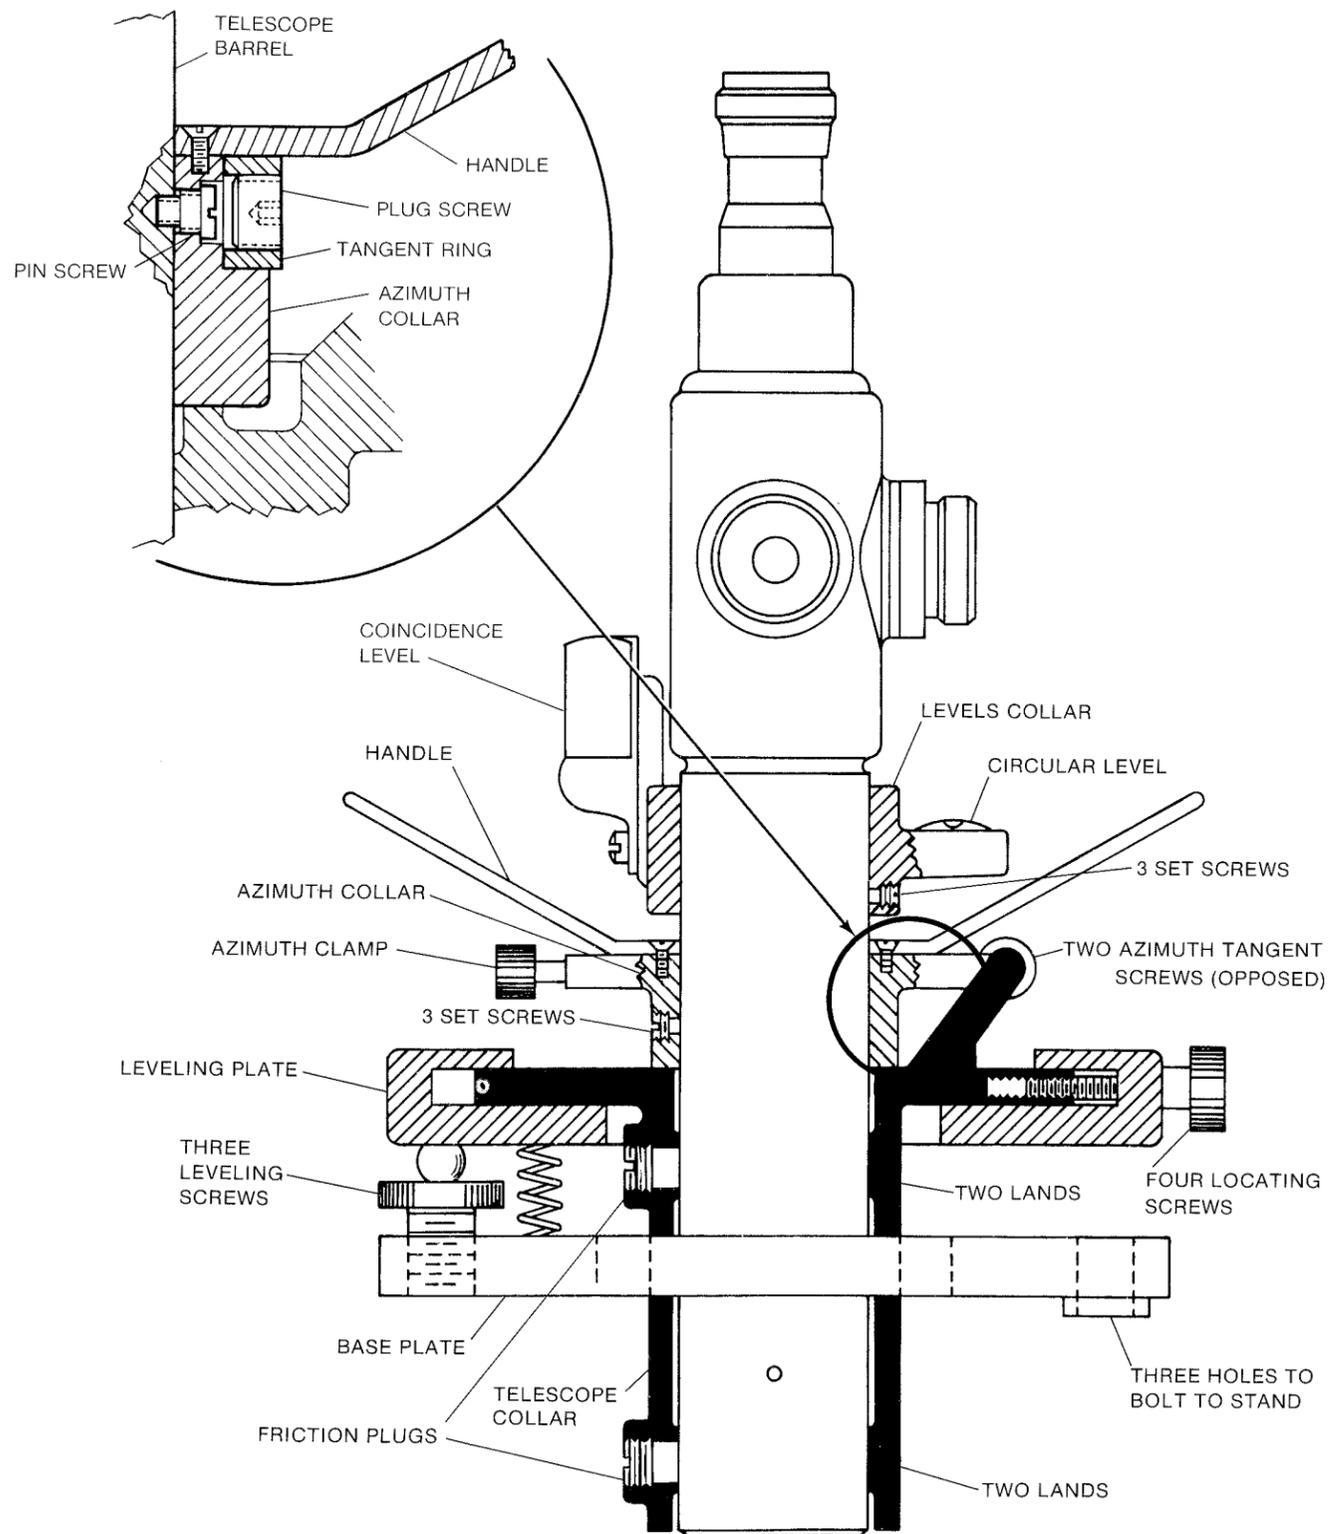

Figure 2-16. Schematic View of 71 5160 Plumb Aligner Bracket with Alignment Telescope in Place
4. Remove the socket-head plug screw located in the azimuth collar. (See Figure 2-16.)
5. Rotate azimuth clamp (Figure 2-16) until the hole is in line with the hole in the azimuth collar; then, tighten the azimuth lock screw.
**2-56. To Mount a Plumb Aligner Bracket and Alignment Telescope.** The Plumb Aligner Bracket is shown schematically in Figure 2-16. To mount the Alignment Telescope for a downward sight:
1. Center the circular level bubble with the leveling screws. (See Figure 2-16.) The bubble will move in the direction of any leveling screw that is turned clockwise.